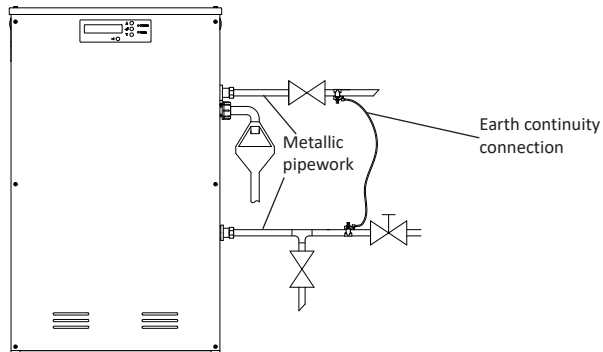

Fig. 7
- 5.15 **Adjacent pipes:** Adjacent suction and delivery pipes should be fitted with earthing clamps in accordance with current regulations (Fig.7).